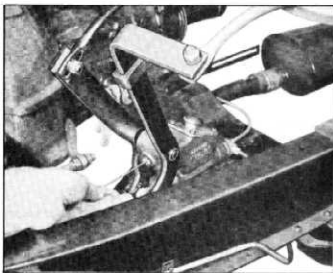

Fig. 141—Removing Clutch and Brake Pedal Key
4. Remove plug from forward end of main cylinder, insert a stiff wire into the shaft lock key and remove key (fig. 141).